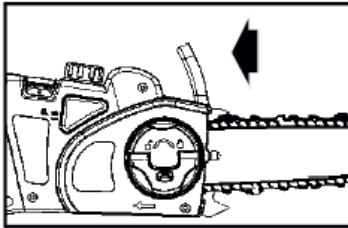

Fig 8A
1. Make sure the chain brake IS DISENGAGED. The motor will not start if the chain brake is in the ENGAGED position. Disengage the chain brake by pulling backward toward the motor. (Fig 8A)